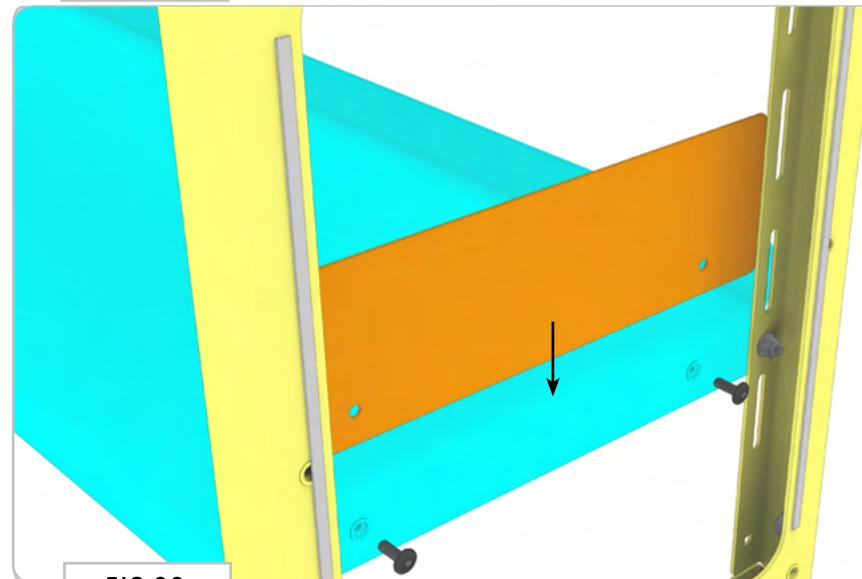

FIG 30
2.12 Install Shelf Side Plates: Attach the Shelf Side Plates to the pre-threaded holes of the Cabinet Shelf Assembly using (2ea) 1/4-20 x 0.75 Flanged Button Head Screws (FIG 30).